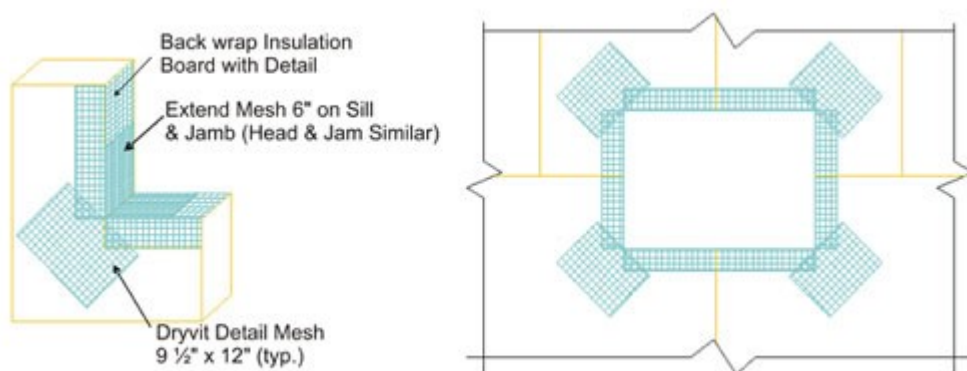

Figure 10: Fig. 10
- t. Corners of all openings such as windows, doors, mechanical equipment and all penetrations shall be reinforced with Detail Mesh placed diagonally to the opening as illustrated in Figure 10.